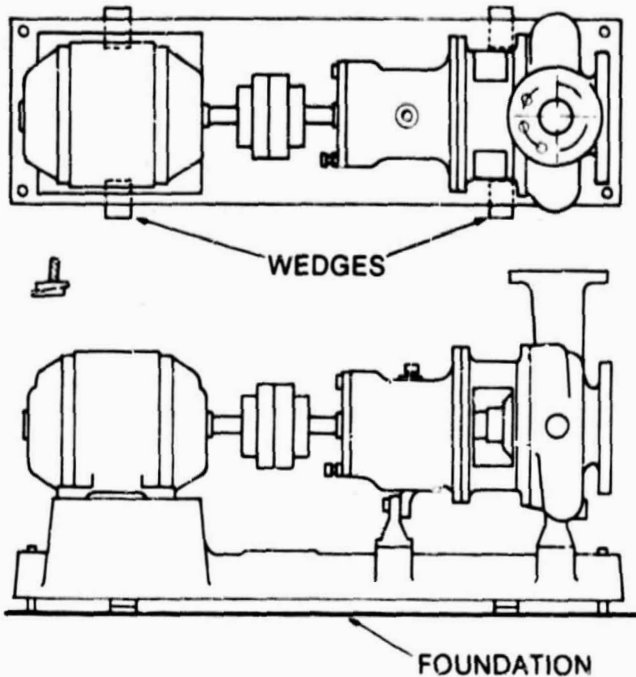

Figure 2
1. Put the unit in place on wedges located at four points as shown in Fig. 2. Some long installations may require additional wedges near center of bedplate.